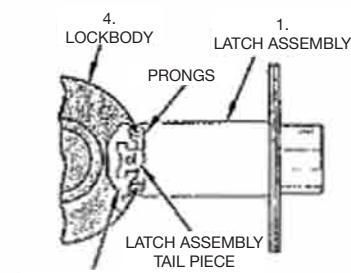

Figure 6
- If backset is 2-3/4", slide latch sleeve (2) onto the latch assy. (1). (as shown).
- Insert Latch Assy. (1) into 1" hole, making certain that latch bolt bevel faces direction of closing door. (as shown)
- DO NOT secure Latch Assy. (1) until engaged with Lockbody (4), as described in Figure 6.